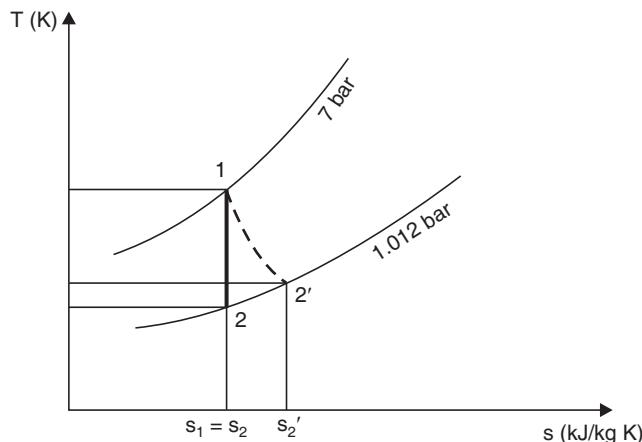

Fig. 3.36
**Solution.** Refer to Fig. 3.36.